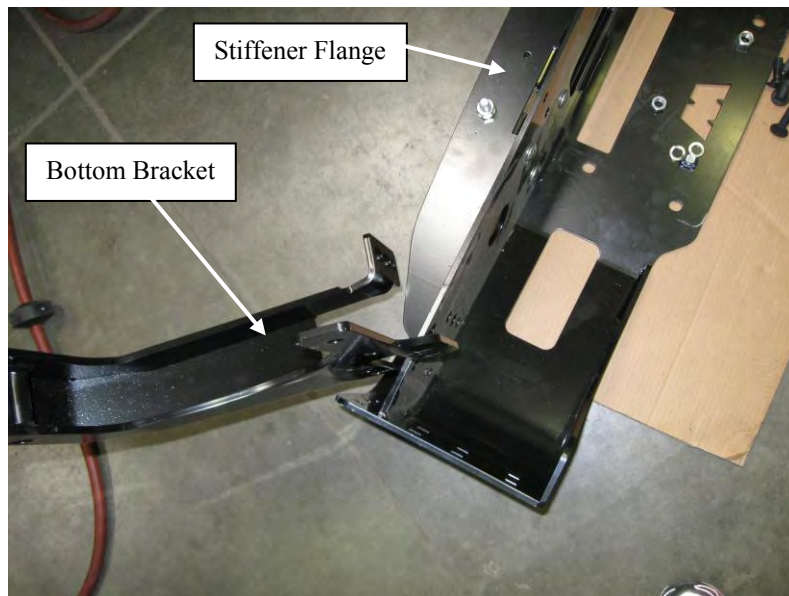
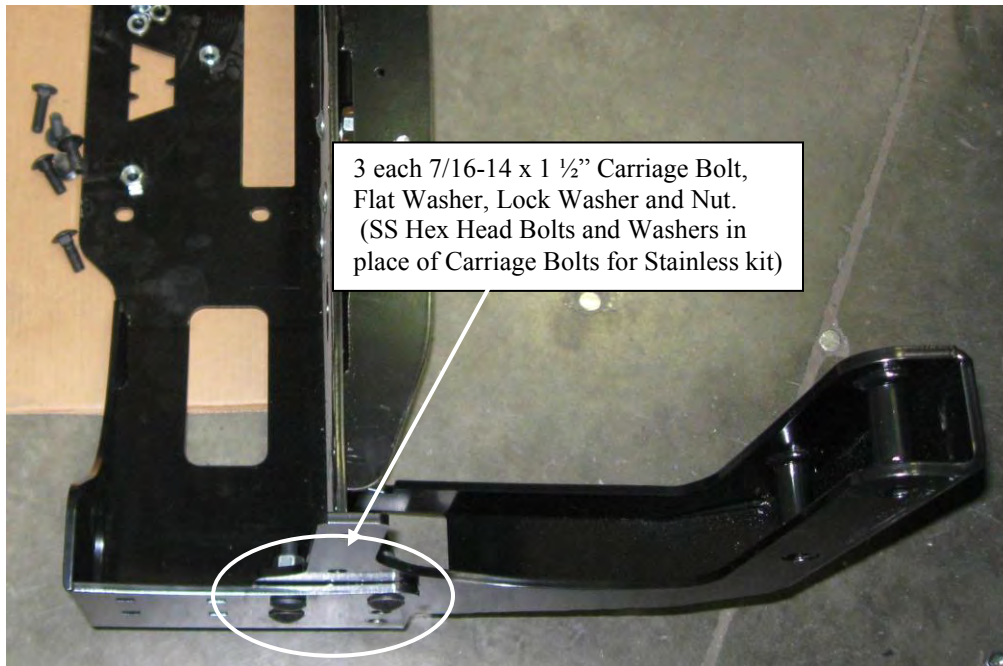

Figure 3: Large Frame Carrier: Install Bottom Bracket at an angle to get around Stiffener Flange.
Figure 4: Large Frame Carrier: Installed Bottom Bracket.
13. Install the bottom brackets onto the winch carrier as shown in figure 4. **Note: if installing a Large Frame Carrier install the reinforcing bracket according to the instruction provided with the carrier.** On the large frame carriers it is necessary to install the bottom brackets at an angle to fit the bracket around the stiffener flange. **See figure 3.** Install 3 each 7/16-14 x 1 1/2" Carriage Bolt as shown in figure 4. If installing a stainless kit, use stainless hex head bolts and washers (provided in carrier hardware kit) in place of carriage bolts. Install a flat washer, lock washer, and nut on the bolt. Repeat for the opposite side. Do not tighten any hardware yet.